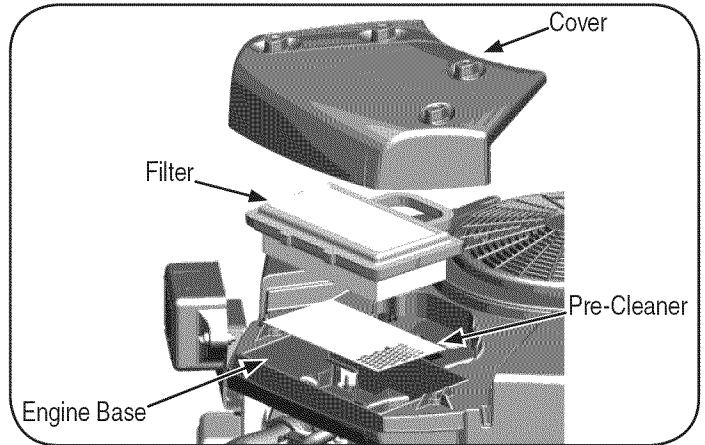

Figure 29
2. To remove the air filter, lift the end of the filter. See Figure 29.